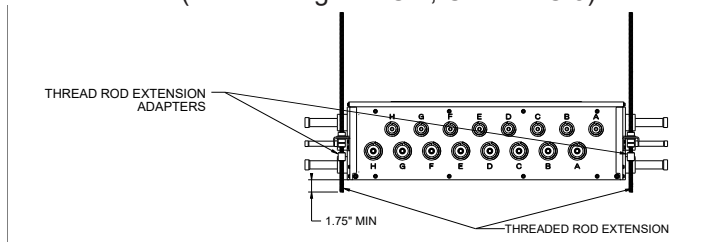

FIGURE C.1
- The end of the all-thread rods needs to be a minimum of 1.75-in. past the bottom surface of the Valve Box Enclosure (Refer to Figures C.1, C.2 and C.3).